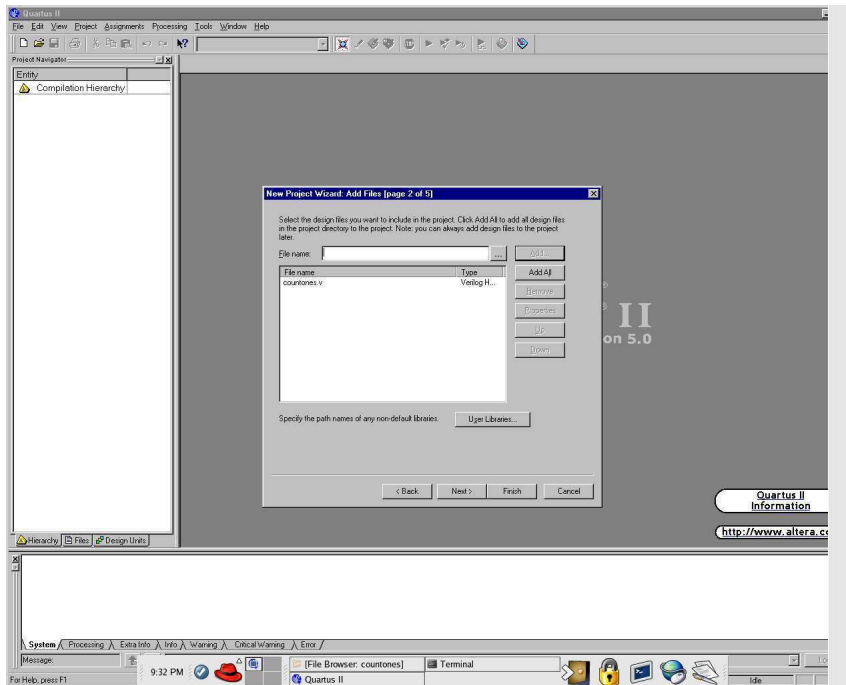

Figure 4: Add files
4. Next you can add the existing files into the project you are creating as shown in Figure 4. You can browse for your folder and add the files and you can add/delete more files even after creating the new project.